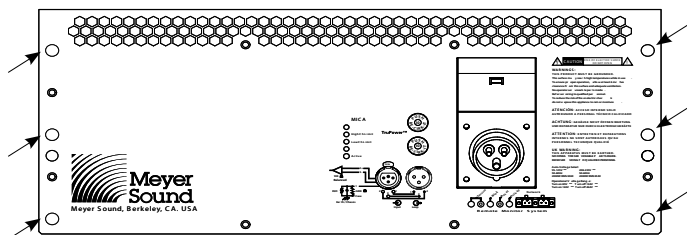

Figure A.1. Location of the six screws securing the MPW-4/MICA amplifier module
1. Using a #2 Phillips screwdriver, remove all six screws from the amplifier module — three each on the left and right sides. This will free the MPW-4/MICA electronics module from MICA cabinet (Figure A.1).